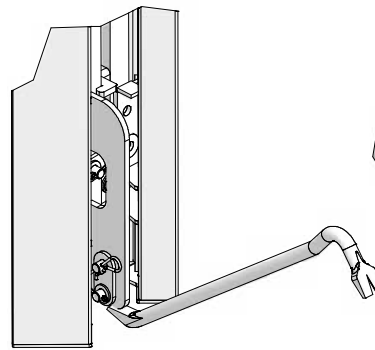
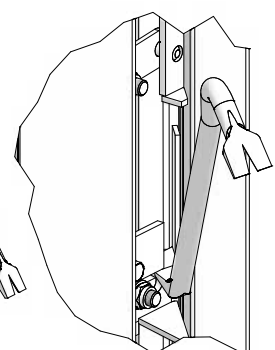

Fig. 54.3
Fig. 54.4
4. Activate the stripping corner with a crowbar. The bell-crank lever is pushed upwards using the crowbar. The crowbar can be applied at the bottom at position A (Fig. 54.3) or in the middle at position B (Fig. 54.4). This breaks the bond between the formwork facing and the concrete without much effort.